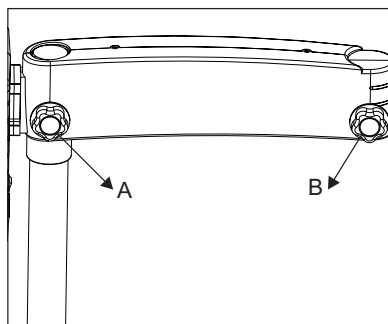

Fig. 12
7.14 Set the cable cover on the suspension arm by aligning the guide screw with the groove provided on the cover by using allen wrench 3mm.(Fig. 12)